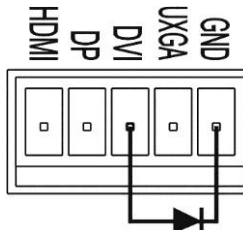

Figure 7: Example of a Remote Input Indicator LED Wiring for the DVI Input
3. Connect pin 3 from the terminal block to the anode of the remote DVI indicator LED (see the example in Figure 7).